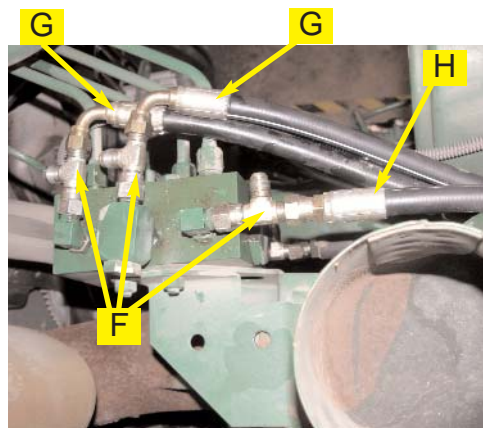

Figure 3d. Tractor Steering Valve - pressure, right, and left lines replaced.
- b. Replace the pressure, right, and left input lines with rubber hoses (G and H) and install the runtees (F). (Figure 3d and 3e.)
**NOTE:** Install the elbow end of the replacement hose (G) at the steering valve and the straight end at the tractor fire-wall (Figure 3d and 3e.)